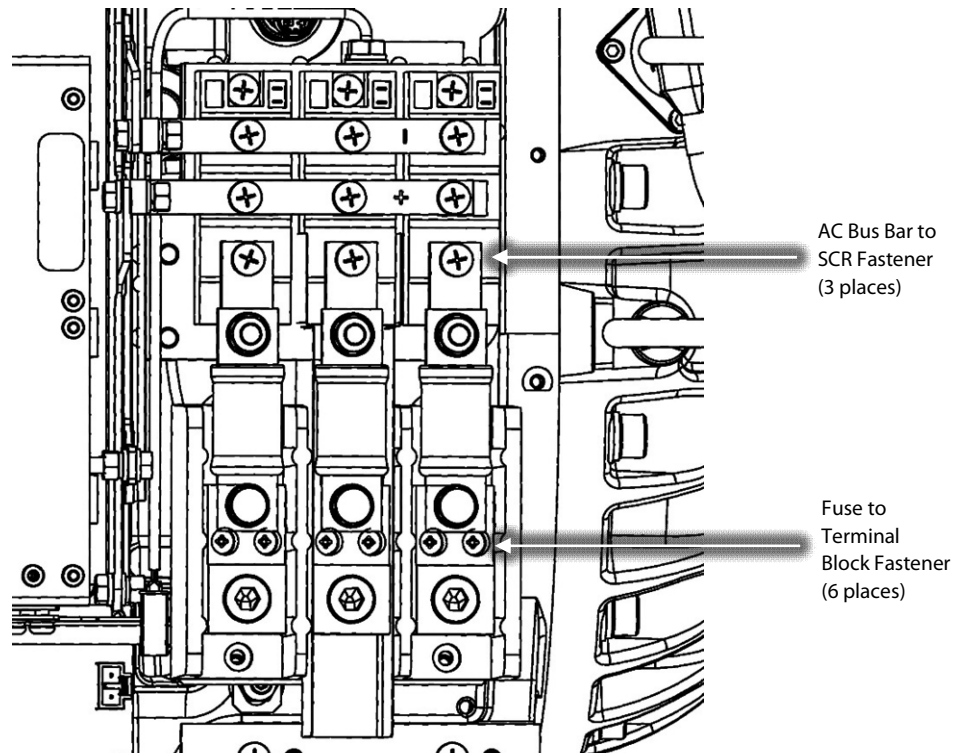
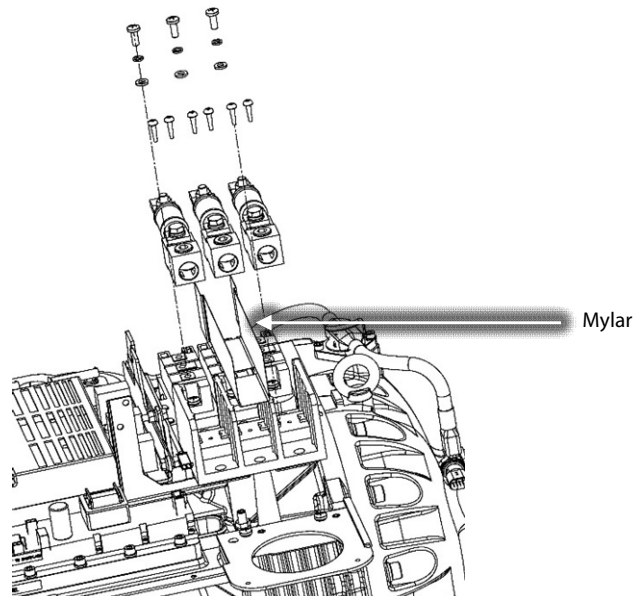

Figure 8 – Fuse Block Assemblies
Figure 9 – Mylar Removal
17. Remove the fasteners that connect the Fast-Acting Fuses to the SCR's and, noting their orientation, the 3-Phase input wires to the Soft Start AC/DC cable harness. Refer to Figure 8 (Fuse Block Assemblies).
18. Remove the fasteners from each of the three (3) fuse block assemblies and set aside the fuse assemblies. Refer to Figure 8 (Fuse Block Assemblies) and Figure 9 (Mylar Removal).
19. Remove the insulating Mylar from the middle Terminal Block and set aside. Refer to Figure 9 (Mylar Removal).